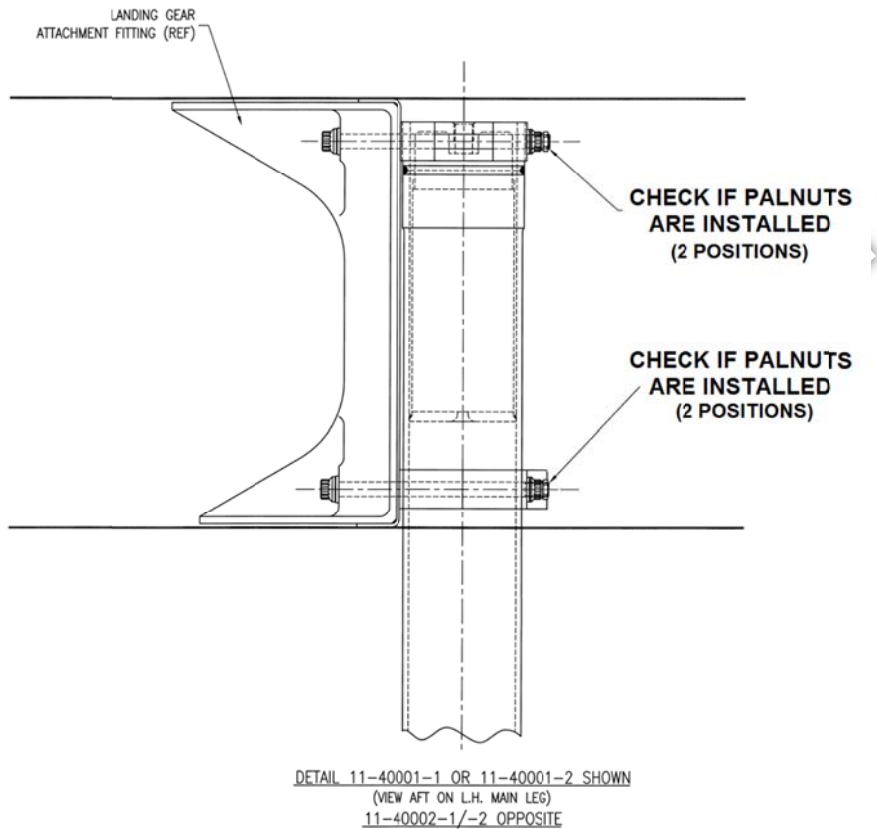

FIGURE 7 MAIN LANDING GEAR (SHORT RANGE WING AND AIRCRAFT WITH MODS 0451 / 0509 / 0663) - INSPECTION
- 4) Inspect the Main Landing Gear attachment bolts (See Figure 7):